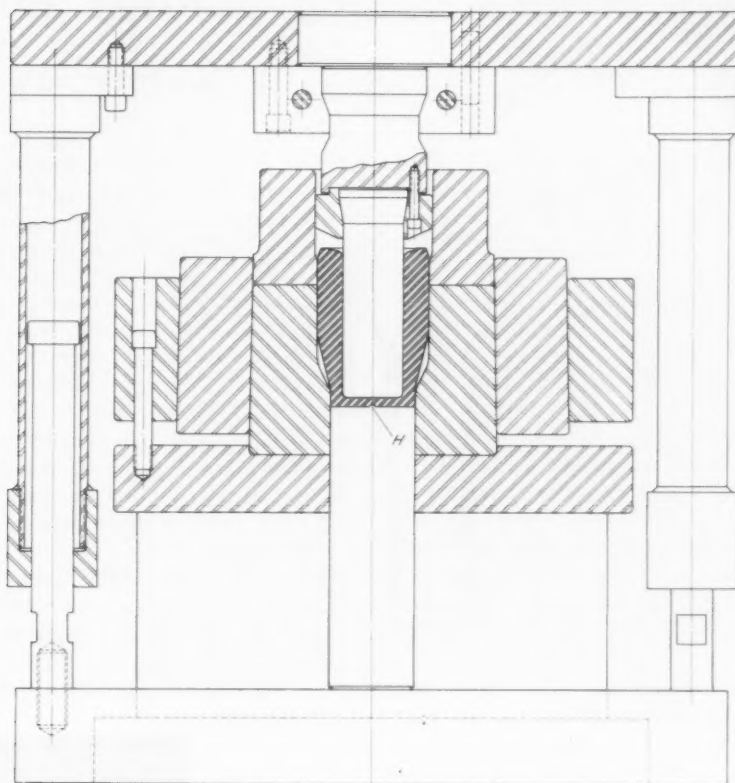

Fig. 12. In the second backward extruding, step (3), the bottom of the tube is reduced to final thickness and a hole for a grease fitting is "spotted."
backward extruding and the forward extruding to finished length, steps (3) and (4), are performed. Like the other press, it is equipped with duplicate tooling, with one operator positioned in the front and another in the rear. Cross-sections of the two different stations are shown in Figs. 12 and 13.
In step (3), Fig. 12, more metal is displaced from the bottom of the cylinder, which now reaches finished thickness. In addition, the length of the extrusion is increased. Wall thickness, however, remains the same. Also, a conical indenta-